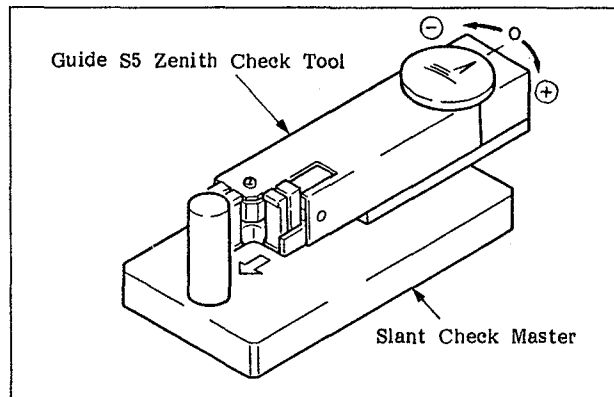

Fig. 6-46-1 Preparation that Must be Made before Making Adjustment
1. Place the guide S5 zenith check tool on the slant check master and push the guide S5 zenith check tool in the direction of the arrow as shown in Figure 6-46-1. Then, adjust the dial gauge so that the pointer points at 0.